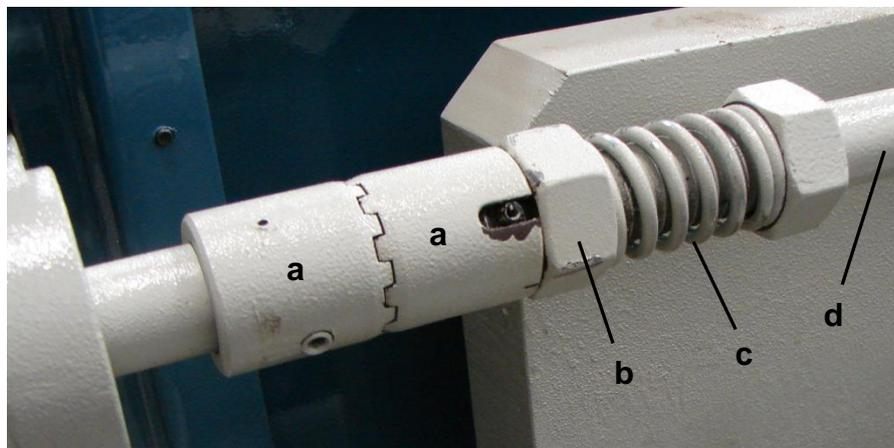

figure 25
2. Disengage the two halves of the coupling link "a" by first turning nut "b" clockwise (cw) to compress spring "c" (fig. 25).